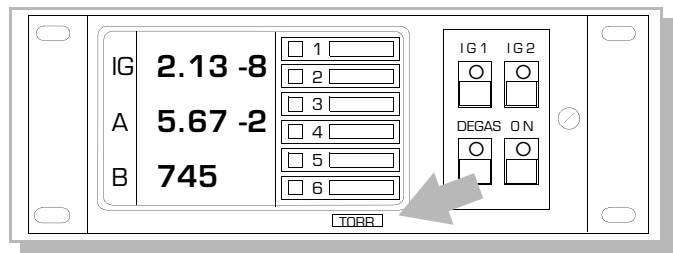
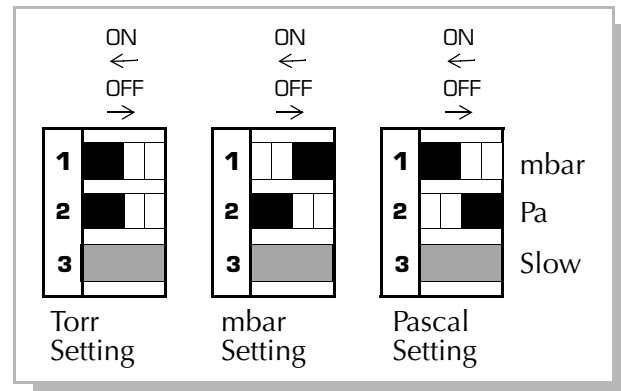
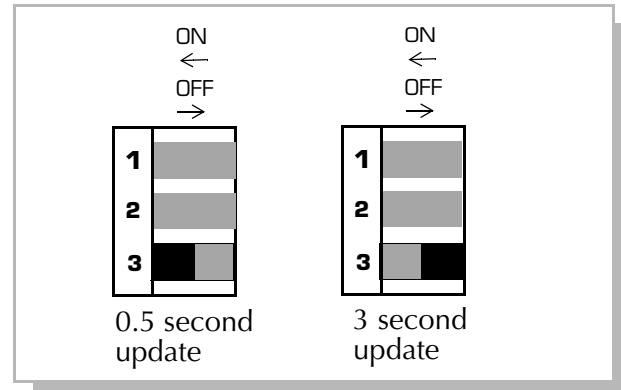

Figure 2-2 Control Unit Front Panel Showing Location of Units of Measure Label.
Figure 2-5 Pressure Display Units of Measure Switch Settings.
Figure 2-8 Pressure Display Rate of Update Switch Settings.
2. If none of the above options are present and if the pressure display units of measure are correct (See Figure 2-2.), and you do not wish to change the degas timer from the factory setting of 10 minutes, skip to Chapter 3 Installation.
1. Skip to Section 2.1.3 on page 2-4 if units of measure are as desired. See Figure 2-2 and Figure 2-5.
2. If you wish to change the pressure display units of measure, change the settings of the units of measure switches on the Electrometer module, and on the Dual Convector Gauge module if present, as shown in Figure 2-5.
1. Skip to Section 2.1.4 on page 2-5 if units of measure are as desired. See Figure 2-2 and Figure 2-8.
2. If you wish to change the pressure display rate of update, change the setting of the rate of update switch on the Electrometer module, and on the Dual Convectron Gauge module if present, as shown in Figure 2-8. Setting this switch "ON" will enable pressure averaging. The display will update about every three seconds with the switch "ON," and 0.5 seconds with the switch "OFF."